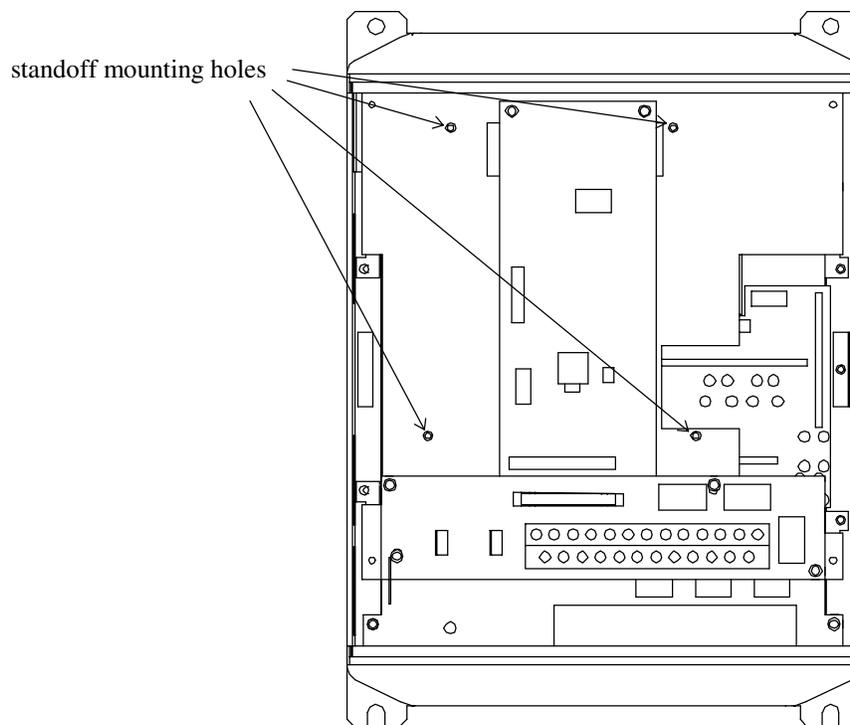

Figure 2: G3 with front cover and operation panel support bracket removed
7. Install the 4 plastic interface board standoffs into the holes provided in the control board support bracket (refer to Figure 2).